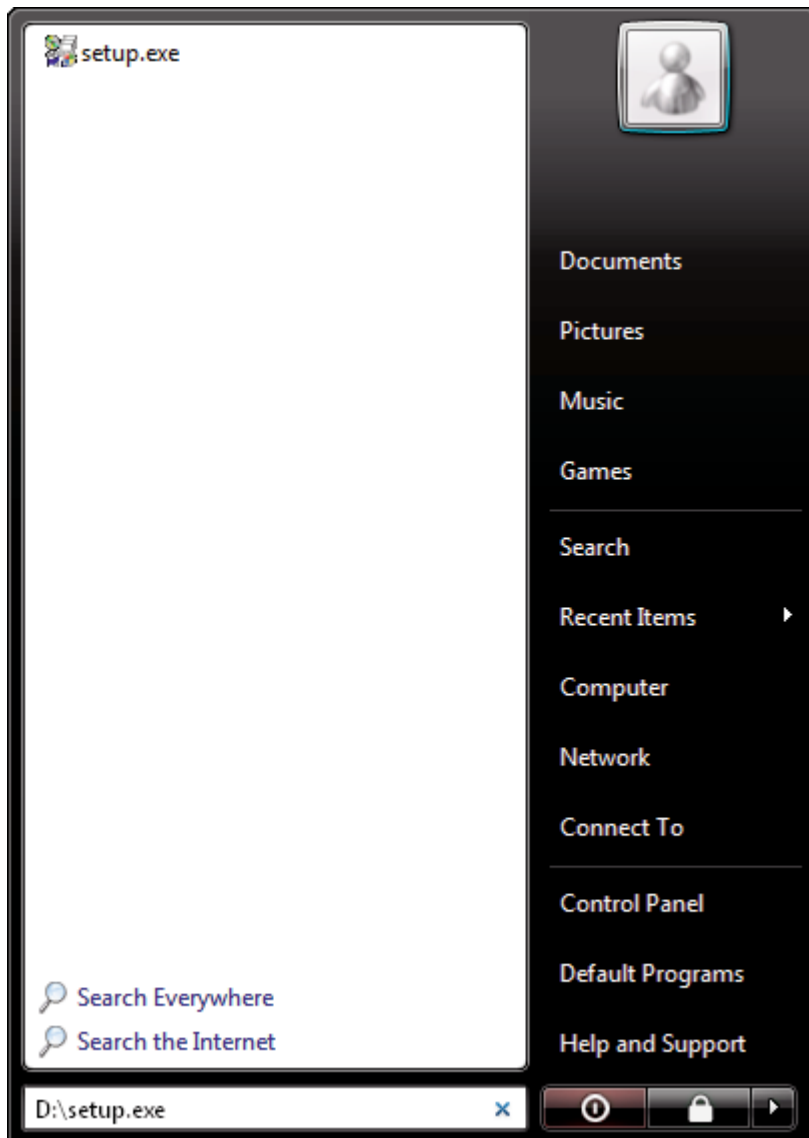

Figure 2-2. Windows Run Dialog
3. The installation program should start up automatically, in which case you may skip to step 4. In Windows Vista, type in “D:\Setup.exe” in the Search text box (where D:\ is the CD-ROM drive) as shown in Figure 2-2. Otherwise, select **Run** from the **Start menu**. In the **Run** dialog box, type “D:\Setup.exe” (where D:\ is the CD-ROM drive). Click on the OK button to run the installation program.